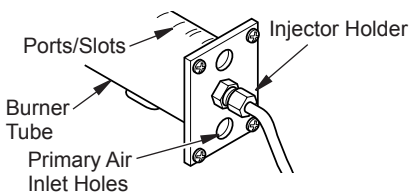

Figure 34 - Injector Holder On Outlet Burner Tube
- Inspect burner, pilot and primary air inlet holes on injector holder for dust and dirt (see Figure 34).